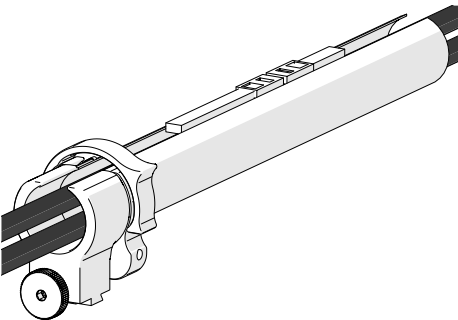

Fig. 93 - Zip opposite end
3. Once the cable is placed the entire length of tube, bring the zipper from the tubes opposite end, meeting at any point in the middle (Fig. 93).